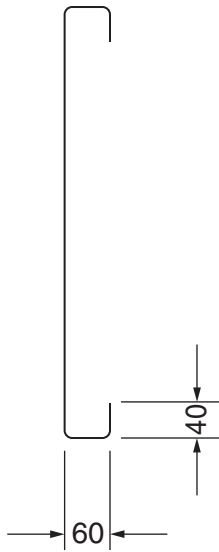

Fig. 2
- (e) Fig. 2 shows details of the bends made in the coat rack. Use sketches and notes to show how **one** end could be bent to the shape shown.